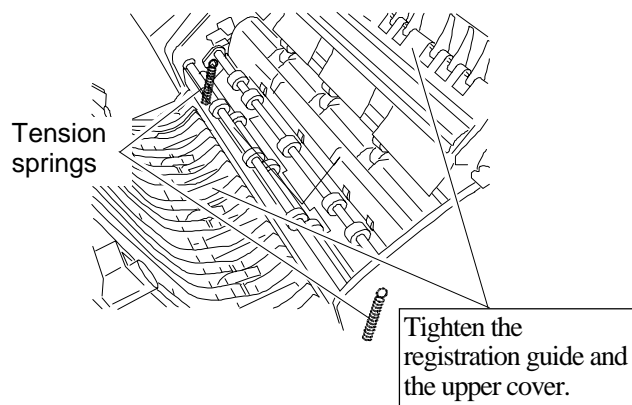

Fig. 6
- 5) Remove the 2 tension springs from their spring hooks, and tighten the cover. (Fig. 6)